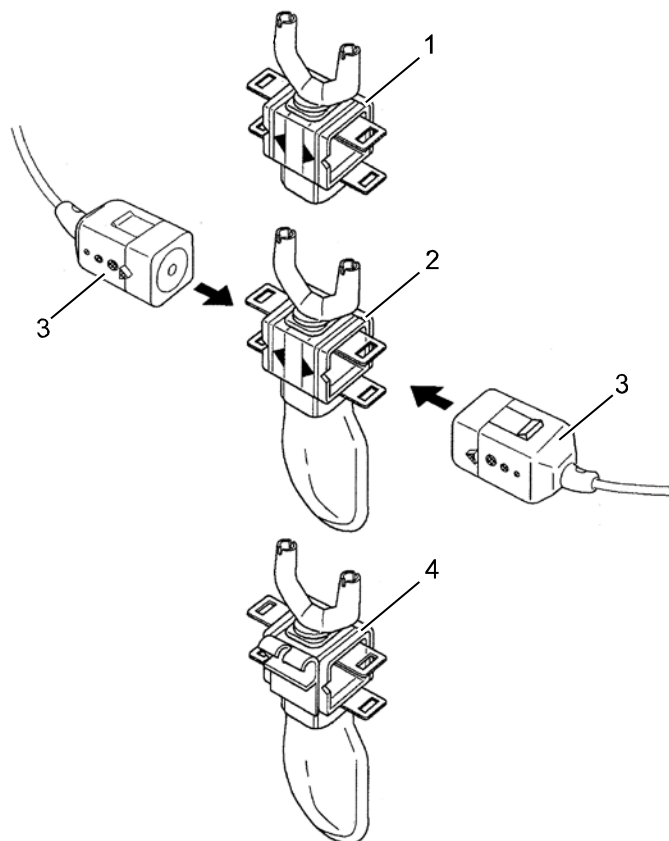
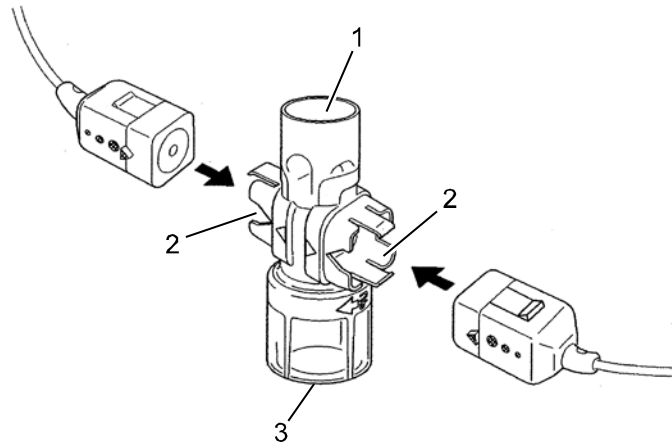

Fig. 6-22 CO₂ monitoring, nasal adapter
Fig. 6-23 CO₂ monitoring, disposable endotracheal tube adapter
1. Attach the appropriate disposable adapter to the capONE sensor (item 3). Fig. 6-22 shows the three nasal adapters, Fig. 6-23 the endotracheal tube adapter.